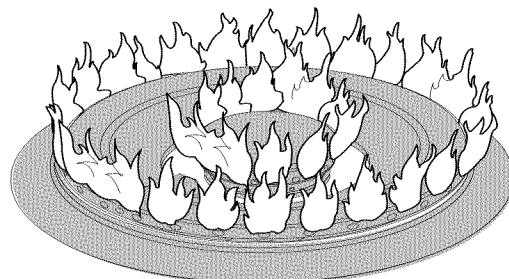

Figure 3 - Inner and Outer rings lit
4. Visually check that both the inner and outer rings for the Twin burner are lit (See Figure 3). Once lit, turn the control knob and continue to turn counterclockwise out of the Lite position and adjust to the desired flame size.